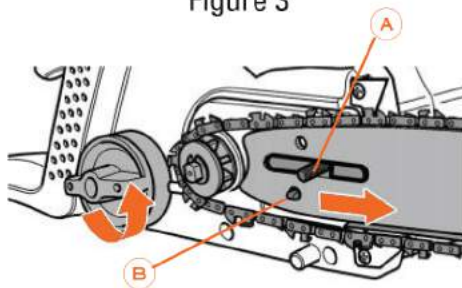

Figure 4
Place elongated hole of the saw rail on the stud bolt (A) and the guide bolt (B) on the chainsaw (see Figure 4).
Place the saw chain around the chain wheel (see Figure 4). Tighten the chain tension wheel counter-clockwise to tension the chain. The saw chain must not sag, but it should be possible to pull it about 1/8 inch off the saw rail in the middle of the saw rail.